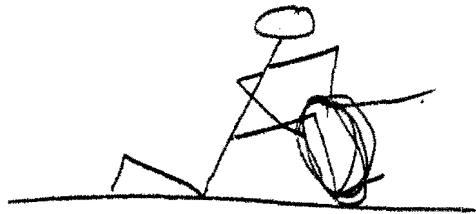

Figure 3.2. Mountaineer's Coil.
b) Mountaineer's Coil. For the mountaineer's coil, the rescuer kneels and wraps the rope from foot to knee. See figure 3.2.